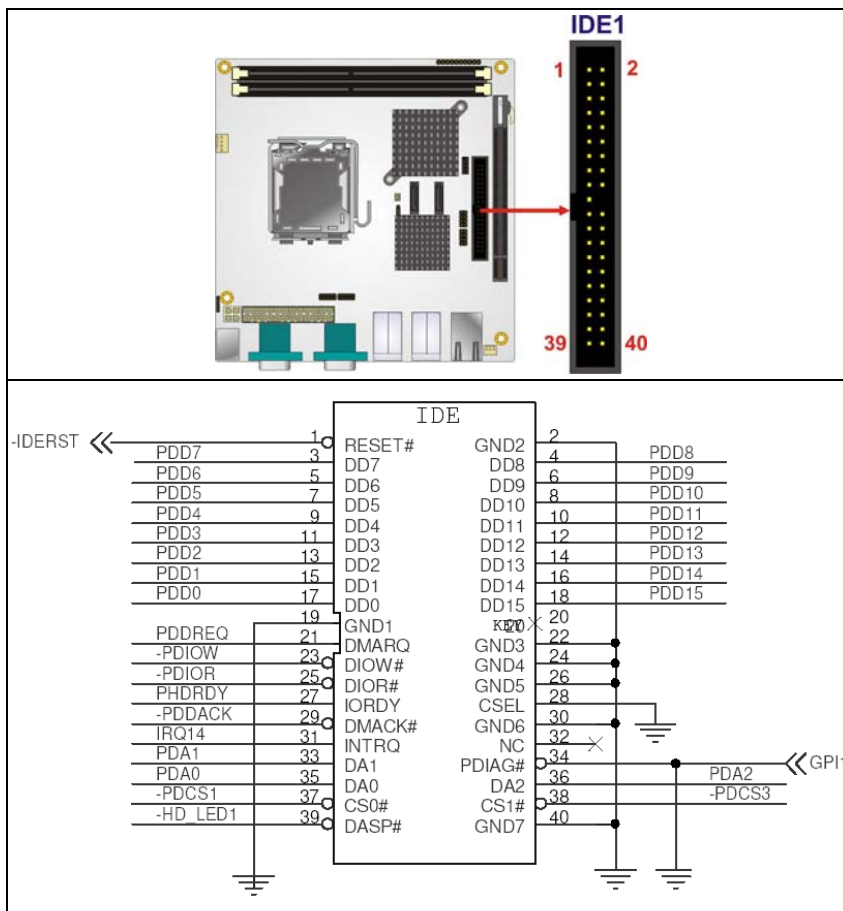

Figure 4-7: IDE Device Connector Location
- CN Location:** See Figure 4-7